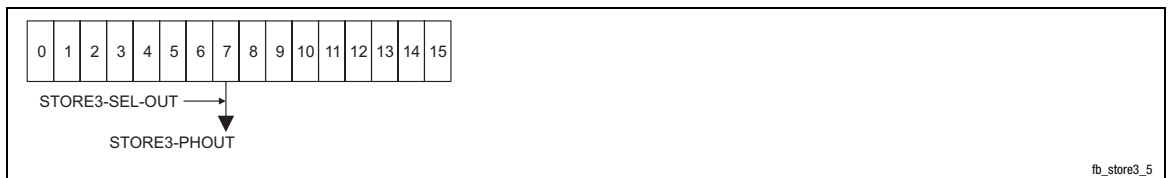

Fig. 3-247 Reading data independently of writing data
3. Afterwards the pointer STORE3-SEL-OUT automatically is increased by one (in Fig. 3-247 from memory location 7 to 8).